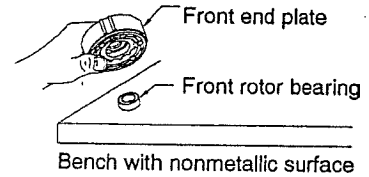

Figure 4
4. To remove the Front Rotor Bearing, hold the Front End Plate with Front Rotor Bearing down and tap the Front End Plate on a flat, nonmetallic surface such as a work bench. This will loosen the Front Rotor Bearing so that it will drop out of the Front End Plate. See Figure 4.